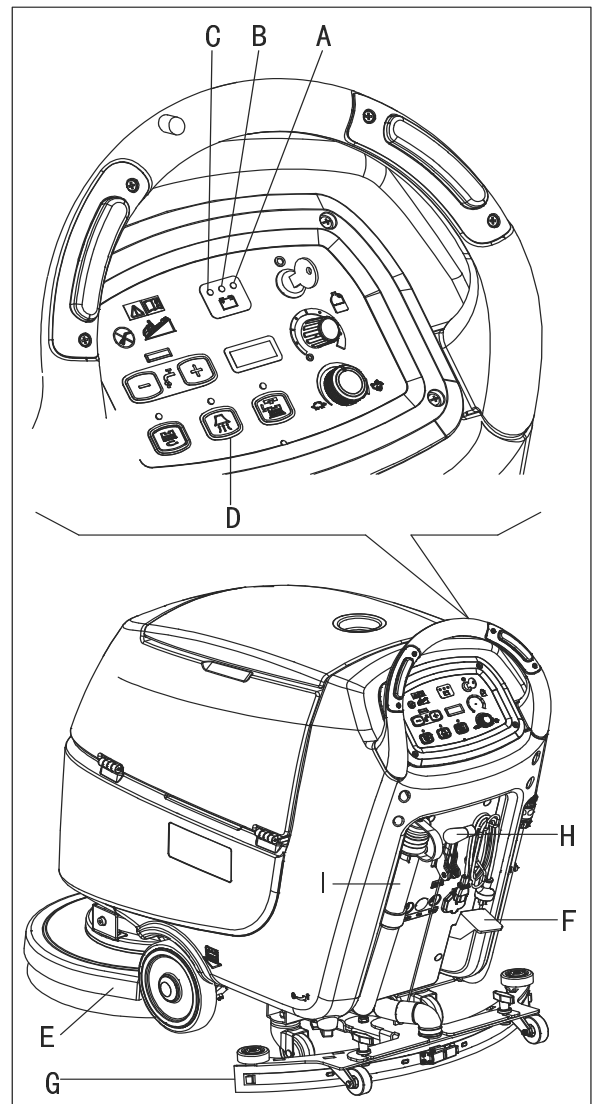

Figure 12
Until the green warning light (A, Figure. 12) stays on, the batteries allow the machine to work normally. When the green warning light (A) turns off, and the yellow warning light (B) turns on, it is advisable to charge the batteries, because the remaining charge will last for a few minutes (depending on battery characteristics and work to be performed). When the red warning light (C) turns on, batteries are fully discharged. After a few seconds, the brush/pad-holder is automatically tuned off, while (only for machine with traction) the drive system stay on, to finish drying the floor and drive the machine to the appointed recharging area.
If the vacuum system turns off accidentally (for example, when the float is activated because of a sudden machine movement), to resume the operation: turn off the vacuum system by pressing the switch (D, Figure. 12), then open the cover (C, Figure. 13) and check that the float inside the grid (A) has gone down to the water level. Then close the cover (C) and turn on the vacuum system by pressing the switch (D, Figure. 12).
2. Lift the brush/pad-holder deck (E, Figure.12) by pressing the pedal (F).
3. Lift the squeegee (G) with the lever (H).